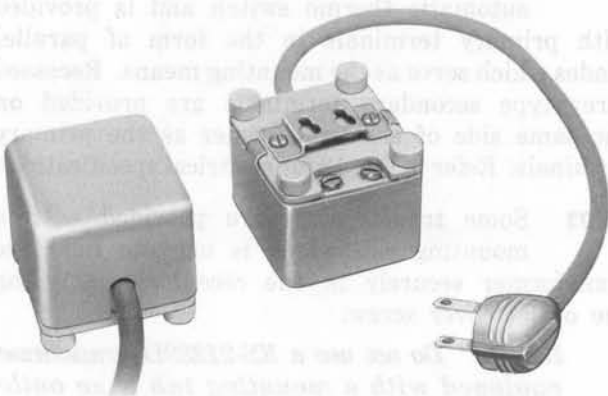

Fig. 15—2075A Transformer
**8.01** The 2075A transformer (Fig. 15) supplies power (15 to 18 volts) for the 41A dial in the 660-, 662-, 663-, and 664-type telephone sets.